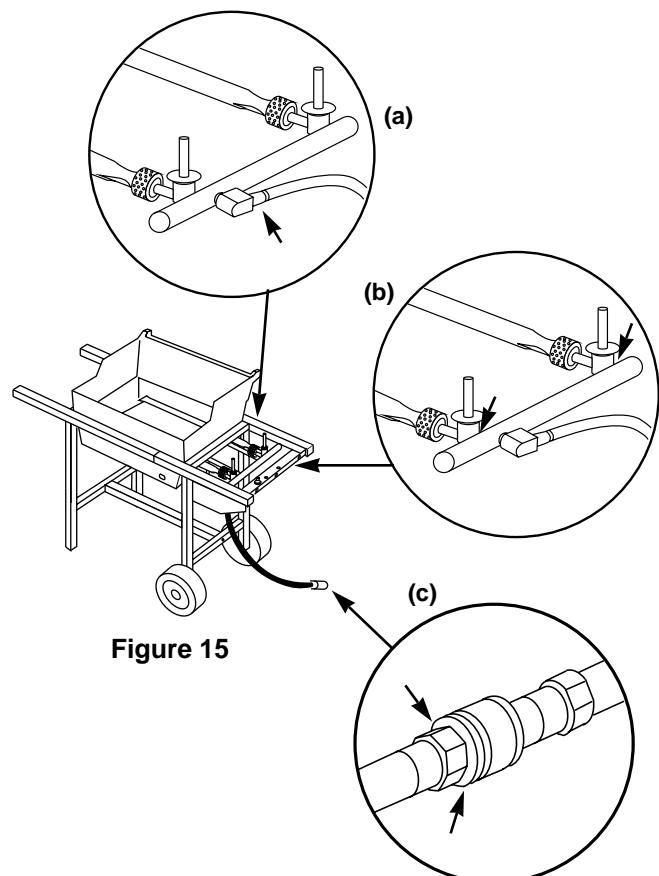

Figure 15
a) Hose to manifold connection. Figure 15 (a).
**⚠WARNING: If there is a leak at the hose to manifold connection, Figure 15 (a), retighten the hose fitting with a wrench and recheck for leaks with soap and water solution.**
b) Valves to manifold connections. Figure 15 (b).
c) The hose to quick disconnect connection. Figure 15 (c).